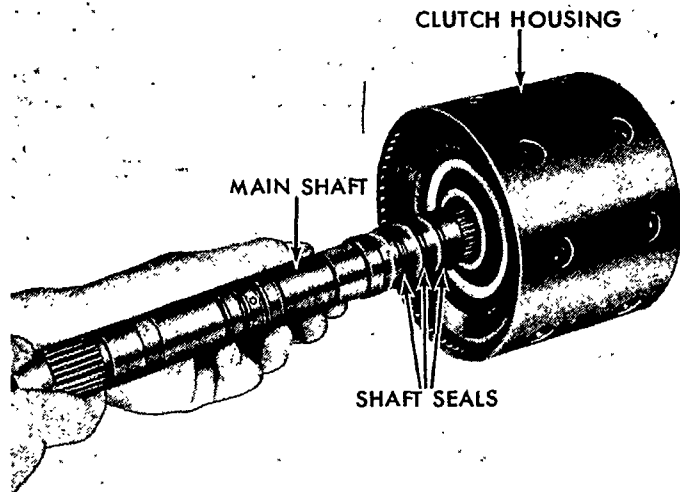

Figure 60
23. Install the three rearmost shaft seals on the mainshaft. Use petroleum jelly to center the seals. Install the shaft in the clutch 2 and 3 housing, as shown in Figure 60. Install the clutch housing retaining snap ring (circlip) and position the "C" carrier-to-housing thrust washer over the shaft.